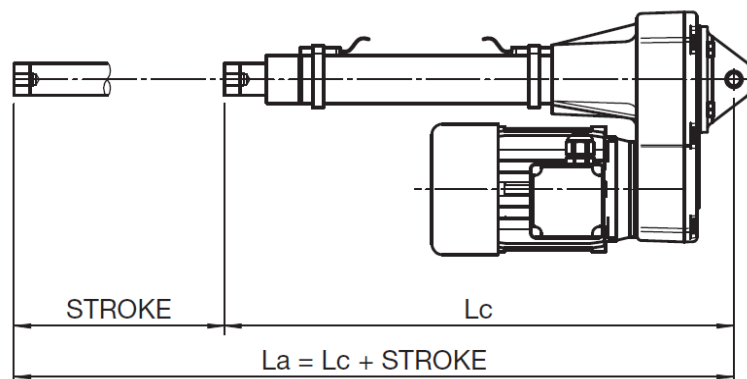

Figure 6.6 – “Lc” and “La” dimensions
FCM magnetic limit switches are supplied already fixed on extreme stroke positions Lc and La (see Fig. 6.6):
- The positions of the two limit switches are the extreme travel positions Lc and La (see Fig. 6.6).
- Check if the extreme dimensions of the actuator “Lc” and “La” (see Fig. 6.6) are compatible with extreme positions of the plant component that has to be moved.
- Before to start relubrication, put the actuator in extended position (La – see Fig. 6.6)